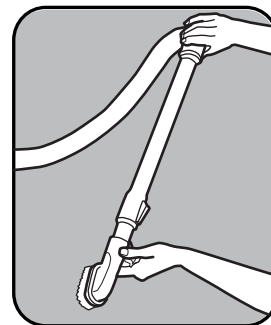

Fig. 3
3. Or attach the wand to the end of the hose and add any of the on-board tools to the end of the wand (Fig. 3).